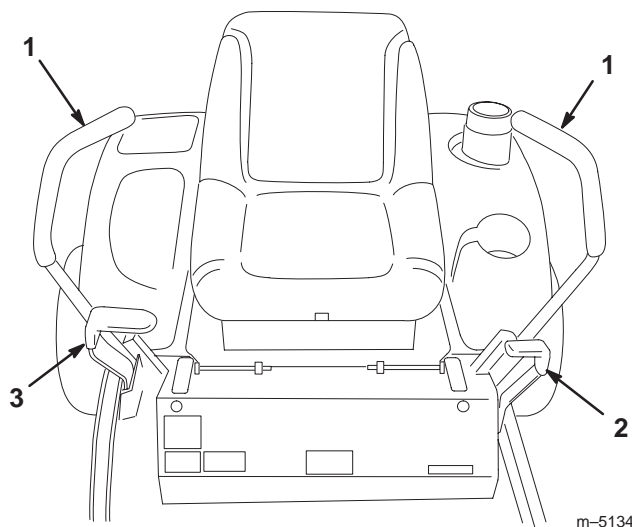

Figure 3
1. Move the motion control levers (Fig. 3) out to the neutral lock position.